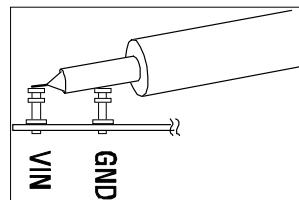

Figure 2. Measuring Input or Output Ripple
NOTE: When measuring the input or output voltage ripple, care must be taken to avoid a long ground lead on the oscilloscope probe. Measure the input or output voltage ripple by touching the probe tip directly across the Vin or Vout and GND terminals. See the probe measurement diagram in Figure 2 for proper scope probe technique.
6. Set the load current of both outputs at 600 mA and measure the output ripple voltage of each regulator (Refer to Figure 2 for proper measurement technique); they should measure less than 20 mVAC each. Also, observe the voltage waveform at either switch node (pin 4 for reg.1 and pin 7 for reg.2) of each regulator. The switching frequencies should be between 1.2 MHz and 1.8 MHz ($T = 833 \text{ ns}$ and 555 ns).